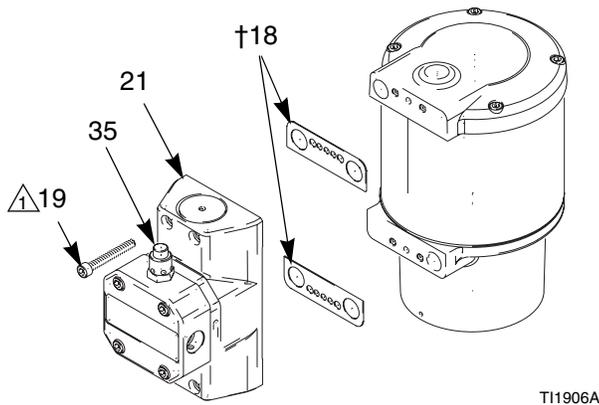
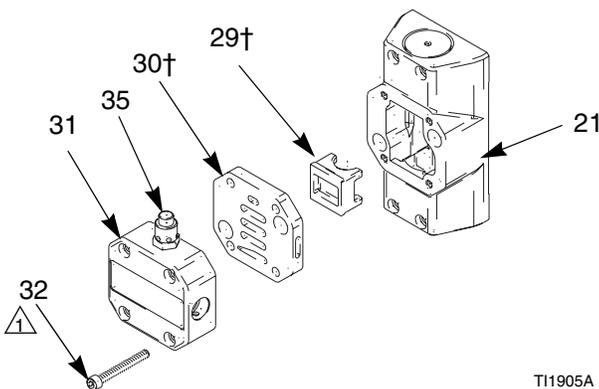

FIG. 5. Air Valve
FIG. 6. Air Valve Cover, Seat, and Cup
1. Remove the screws (19) and take the air valve housing (21) off the air motor. Remove the gaskets (18). See FIG. 5.
2. Remove the air valve cover (31), seat (30), and cup (29). See FIG. 6.
4. Install the o-rings (23†) on the bushings (22) and install one bushing in the housing (21). Install the piston (24†) and the other bushing. Install the setscrews (36) to secure.
5. Place the cup (29†) into the housing (21) so it rides on the air valve piston. See FIG. 6.
6. Install the seat (30†) and cover (31) as shown. Make sure the holes in the seat align with the holes in the housing (21), and note the orientation of the relief valve (35) in the cover. Torque the screws (32) to 10-11 N•m (90-100 in-lb).
7. Grease the inside surfaces of the housing (21) facing the gaskets (18†), then position the gaskets as shown in FIG. 5. Install the air valve with the relief valve (35) facing up. Torque the screws (19) to 10-11 N•m (90-100 in-lb).